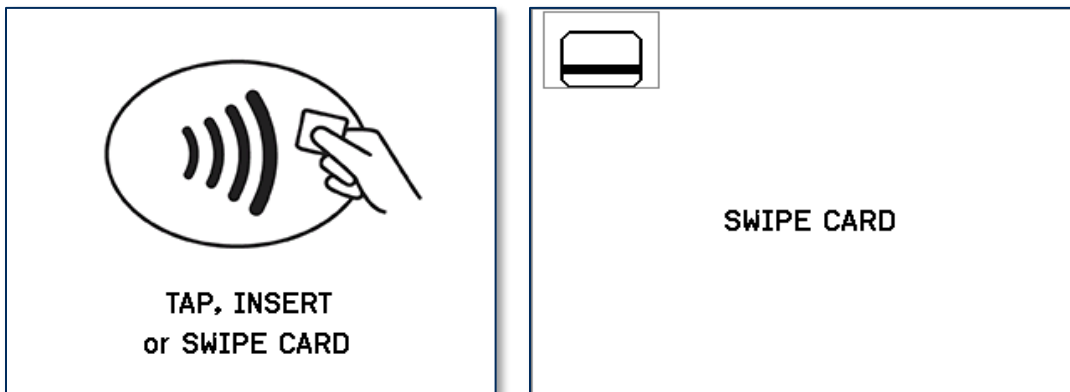

Figure 6-13 - Example Card Swipe Screens
- 1) Wait for the device to display an action prompt (see **Figure 6-13** for examples).